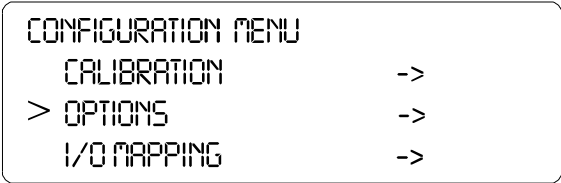

FIG. 54: CONFIGURATION MENU/SELECTING OPTIONS
Step 2. Push the up or down arrows until the cursor is next to “OPTIONS”. (See Fig. 54)